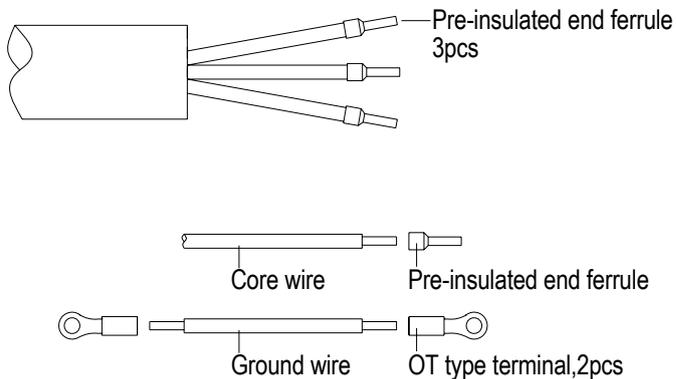

Figure 3-30 AC output and ground cable set up
- (2) Connect the AC (L1, L2, L3) cables to the terminal block and use the OT type terminal to connect the ground cable to the external grounding point at the bottom of the wiring box. (see the 3rd graph in Figure 3-27) Set up the cables referring to Figure 3-30.